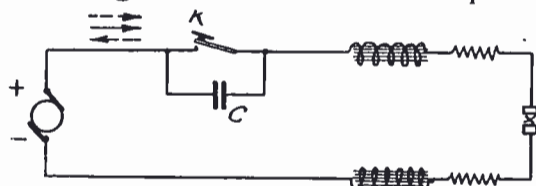

Fig. 1. Circuit Breaker with Condenser Shunt
The principle underlying this particular application is the use of condenser circuits shunting the key contacts. Consider Fig. 1 in which we have the power
line including the interrupting key K . The key is shunted by a condenser C . Experiment shows that when the circuit is broken and an arc is formed at the key contacts this arc is of the same nature as the Poulsen arc used for the generation of continuous wave oscillations, and that *radio frequency oscillations are set up in the condenser circuit shunting the key contacts*. These radio frequency currents oscillate at a frequency determined by the capacity of condenser C and the inductance in the condenser circuit which, in the case of Fig. 1, is the inductance of the connecting leads only. Now this radio frequency current which results from the formation of the arc at the key contacts flows through the condenser *and the arc*. We thus have two currents flowing through the arc at the key contacts: (1) the main supply current due to the generator, which current flows through the arc in one direction only as shown by the arrow in full line, and (2) the radio frequency